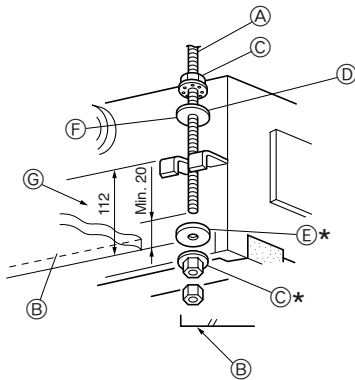

Fig. 2-7
1. Thread washers ① ② (supplied) and their nuts (procured locally) onto the suspension bolt in advance. (Fig. 2-7)
* Do this in the following order (from the top): nut, insulated washer ②, washer without insulation ①, two nuts.
* Position insulated washer ② with the insulated surface pointing down, as in the figure.
2. Lift the unit into place, aligned properly with the suspension bolt. Pass the bracket between washers ① and ②, which are already in place, and secure it. Do the same in all four places.